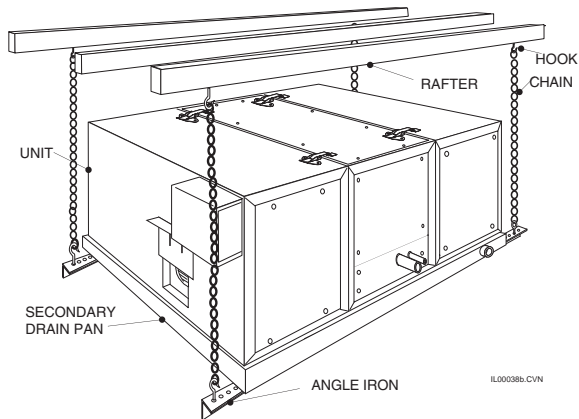

Figure 9. Typical Suspended Mounting
The modules can also be suspended from the ceiling or rafters. A typical suspension method is shown in Fig. 9. Screw four (4) “J” hooks into rafters. Suspend four (4) chains from “J” hooks and attach eyebolts to chains. Secure angle iron to eyebolts and place secondary drain pan on top. Put isolation pads in drain pan, making sure unit sits above sides of drain pan.